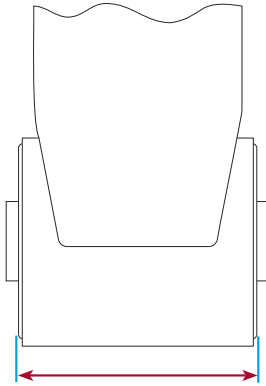

Figure 5: Wide 6" (300 mm) bush for AAT, AAL, EDT, EDL & HT
- The standard (wide) bush is 6 inches (150 mm) wide, refer Figure 5.